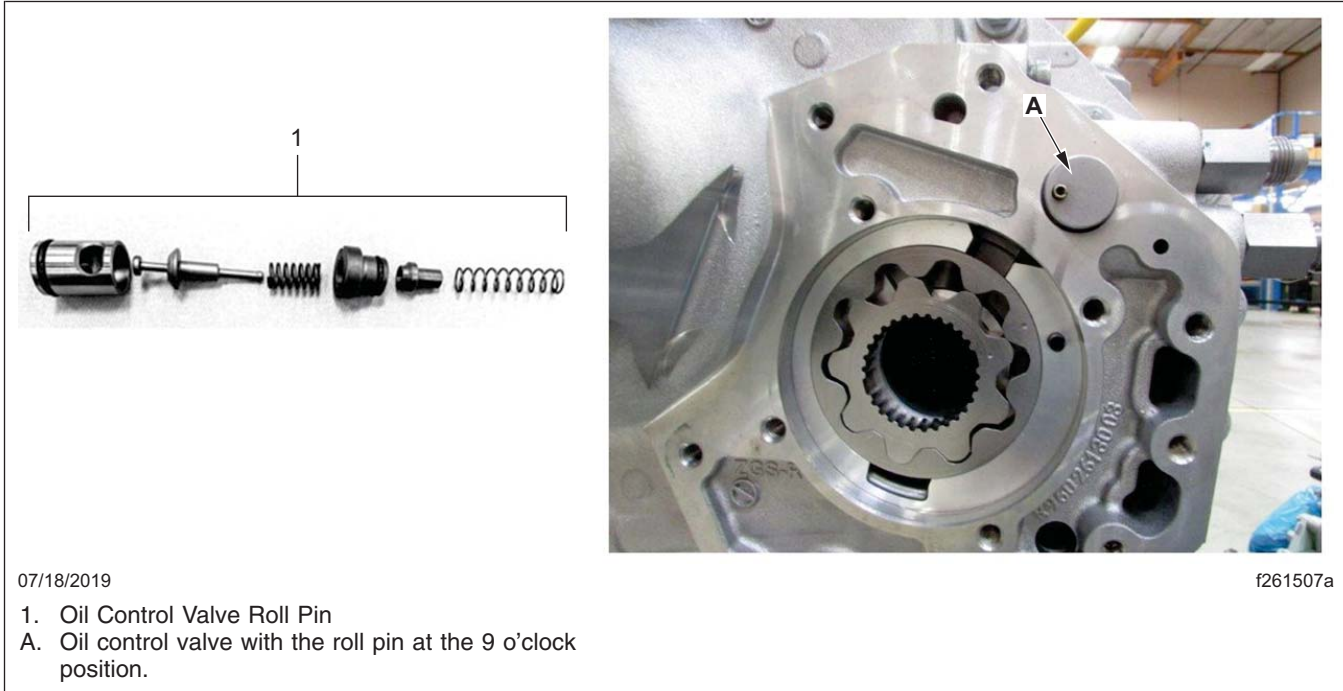

Fig. 13, Installing New Control Valve
10. Install the oil control valve with the roll pin at the 9 o'clock position. See Fig. 13.